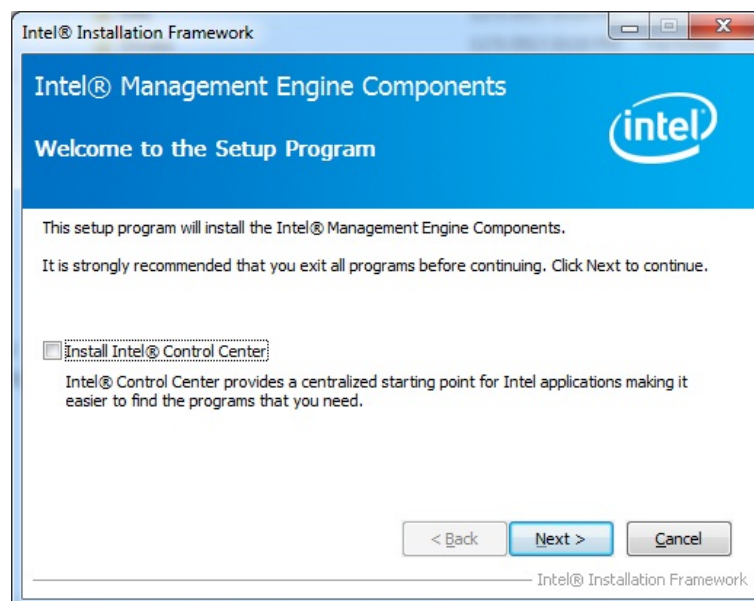

Figure 6-25: Intel® ME Driver Welcome Screen
Step 4: When the setup files are completely extracted the **Welcome Screen** in **Figure 6-25** appears.